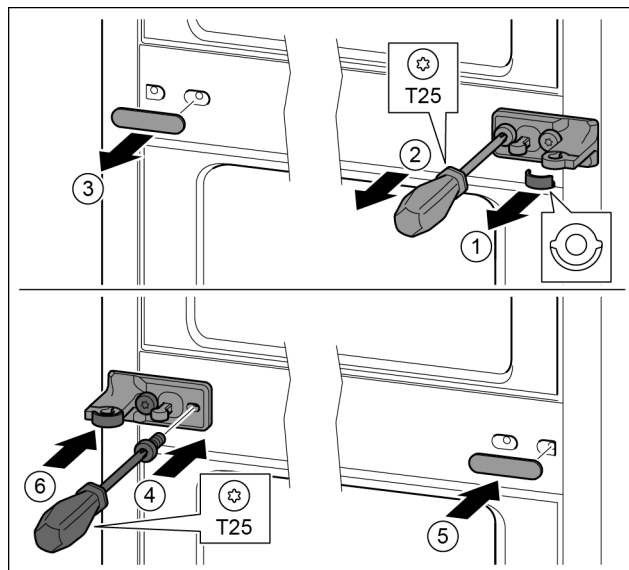

Fig. 15
- ▶ Remove the washer. Fig. 15 (1)
- ▶ Remove the screws with the T25 screwdriver. Fig. 15 (2)
- ▶ Remove the cover carefully. Fig. 15 (3)
- ▶ Screw the bearing bracket and the film rotated 180° firmly onto the other side. Fig. 15 (4)
- ▶ Attach the cover rotated 180° onto the other side. Fig. 15 (5)
- ▶ Push the washer in from the front. Fig. 15 (6)